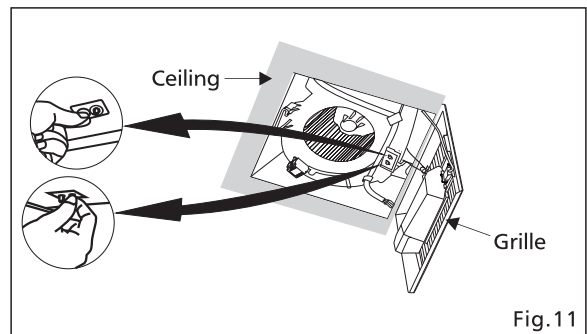

Fig.11
13. Adjust timer preset switch and humidity preset switch (Fig.11). Refer to switch indication on page 6.